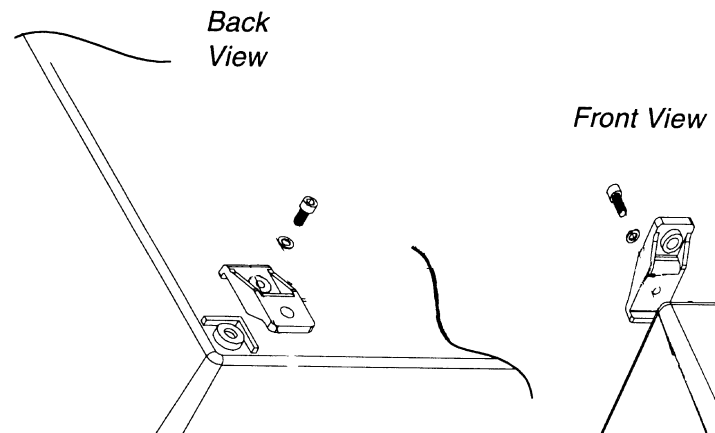

Figure 3
1. Fasten the mounting brackets to the back corners of the housing (see Figure 3). The brackets can be mounted horizontally or vertically.